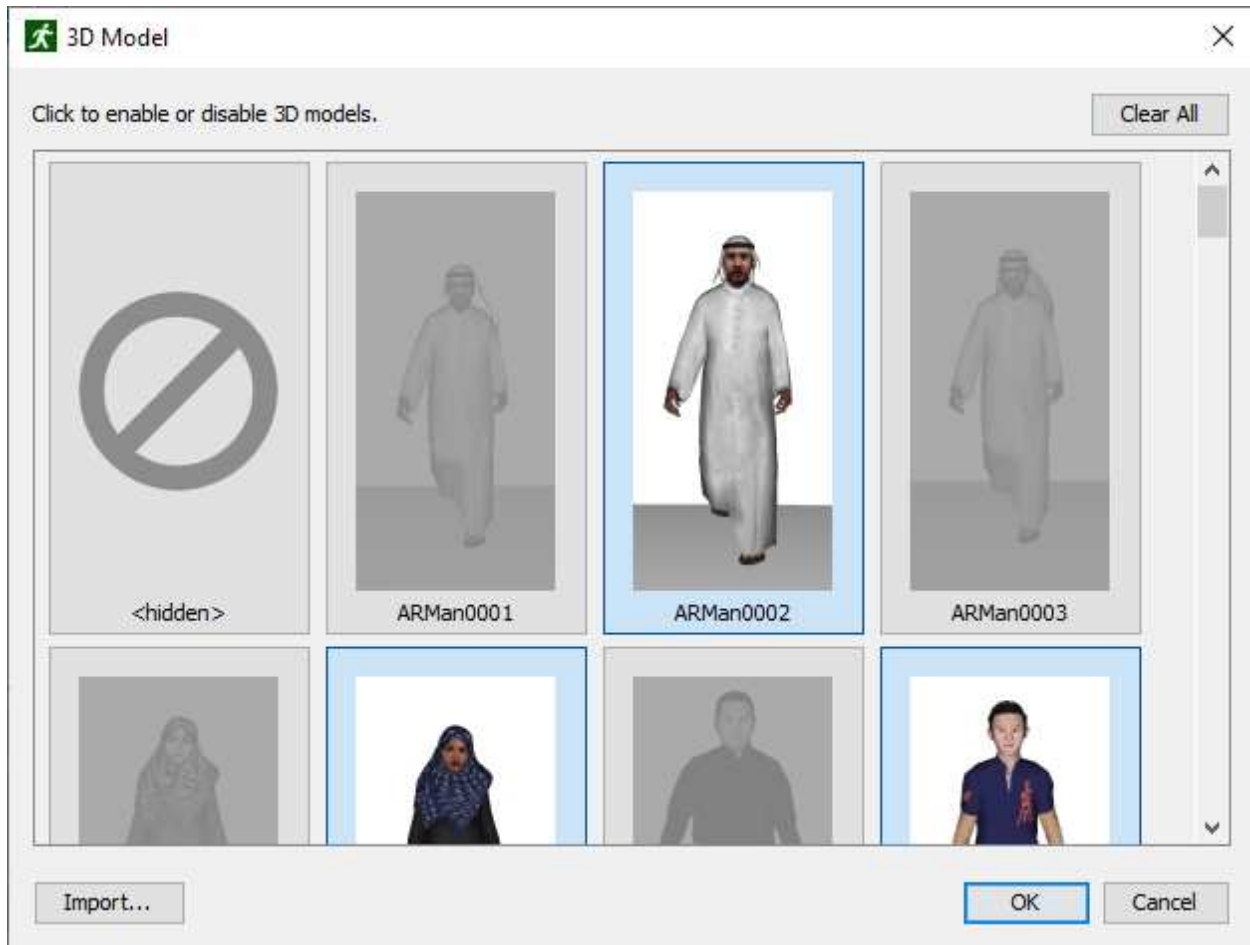

Figure 101. An example of the 3D model dialog.
1. Click **Edit** on the **3D Model** row. This will open the **3D Models** dialog (see Figure 101).